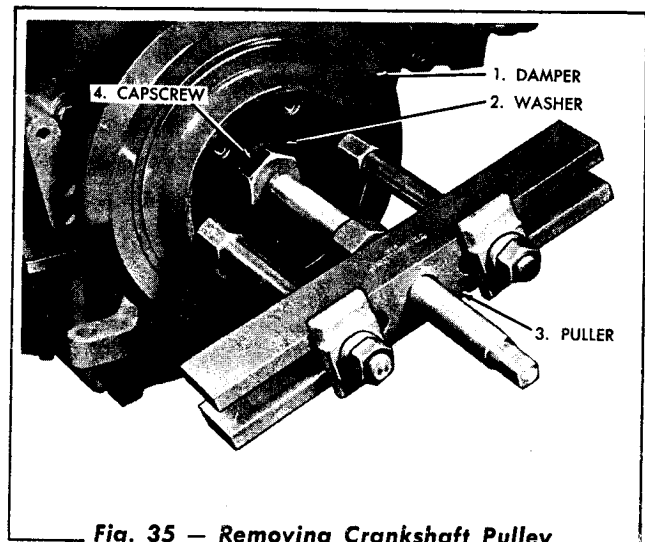

Fig. 35 — Removing Crankshaft Pulley
The crankshaft pulley is secured to the front end of the crankshaft by a tapered fit, key and large capscrew with washer. To remove the pulley, loosen the capscrew about 1/2". Using a puller similar to the one shown in Figure 35, break the pulley loose from the crankshaft. Remove the capscrew, washer and pulley. If necessary, remove the key.
5. Loosen the large cap screw in the crankshaft pulley and using a puller similar to the one shown in Fig. 35 break the pulley loose from the crankshaft. Remove the cap screw, washer and pulley.